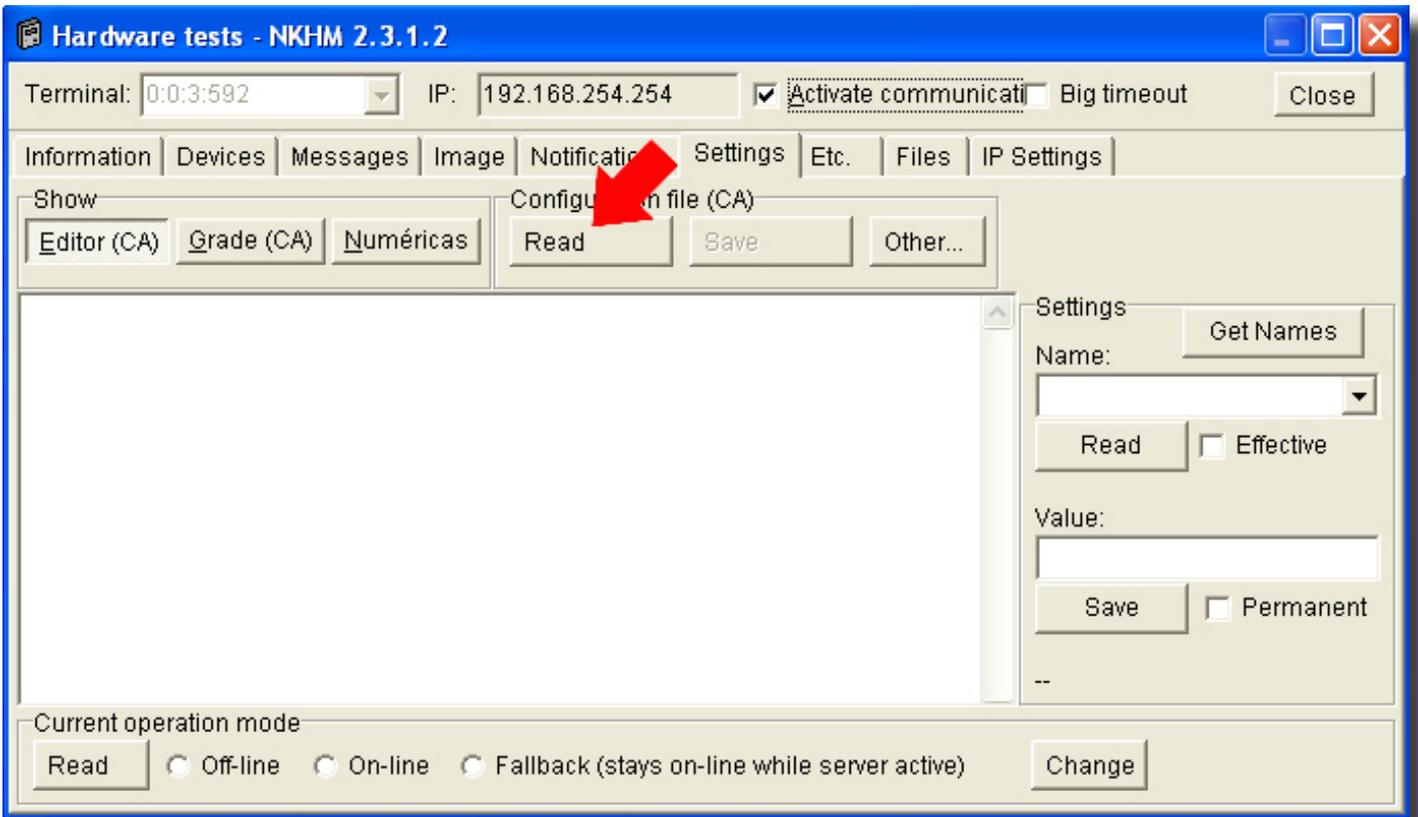
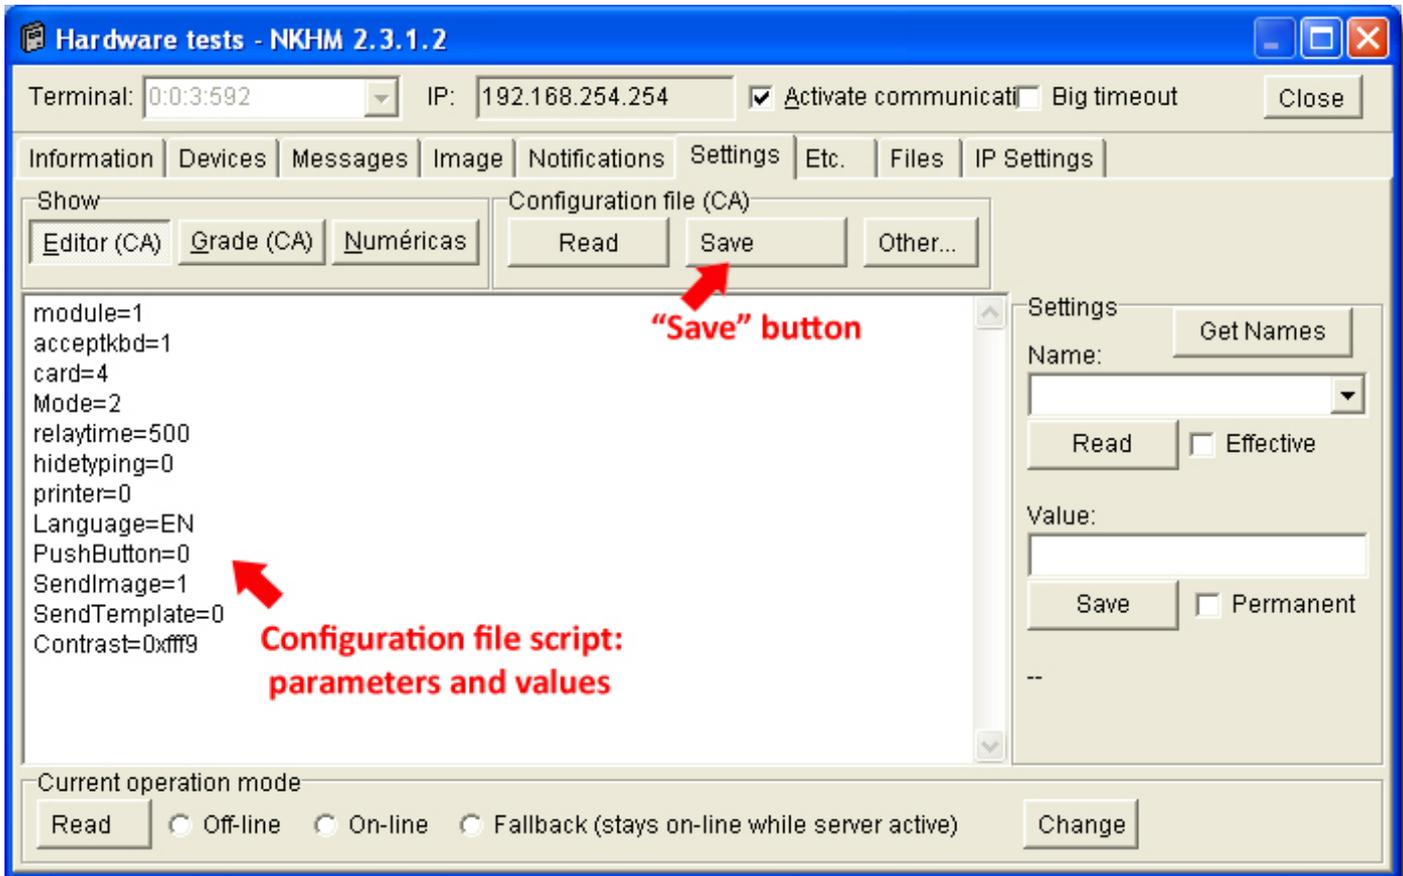

Fig. 40 – Click on “Read” button to show the GAM 110 configuration script in NKHM.
Fig. 41 – Configuration file script: parameters and values. Type the modifications in the script and click on “Save”.
- 5 – Click on the “Settings” tab. In the “Show” pane, click on “Editor (CA)” button.
- 6 – In the “Configuration file (CA)” pane, click on the “Read” button; (fig. 40). The configuration script will be displayed in the “Hardware tests” screen; (fig. 41).
- 8 – In the “Configuration file (CA)” pane, click on the “Save” button; (fig. 41).